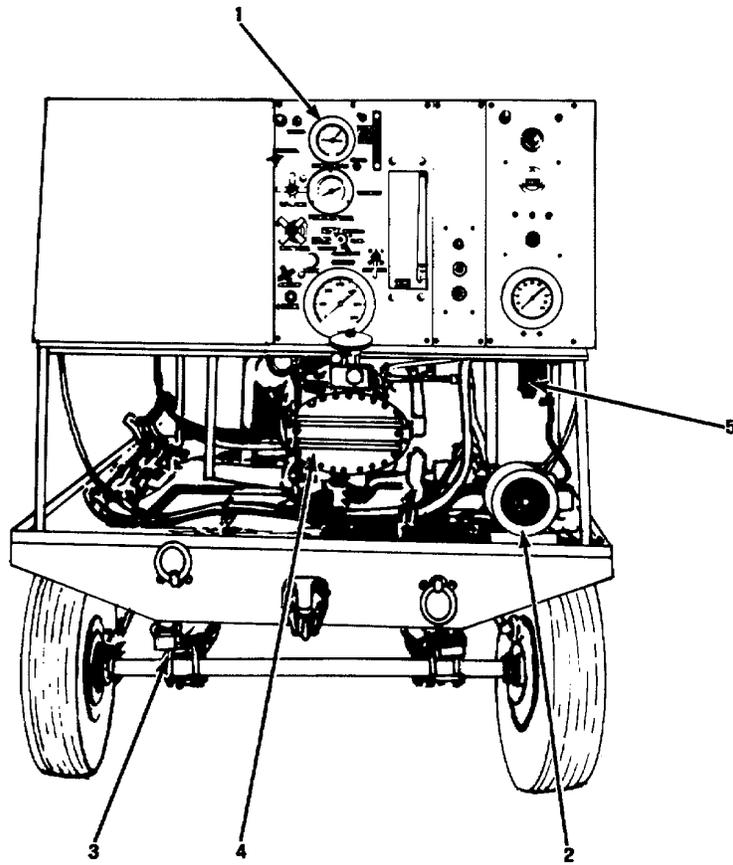

Figure 1-2. Major Components, Rear View.
**1-13. Trailer And Running Gear Assembly (3, Fig. 1-2).** The trailer frame is of welded steel construction. The trailer rolls easily on four steel wheels equipped with 6.00 x 9.00 inch, 6 ply tires. Individual leaf springs for each wheel give the stand good cushioning against road shocks and rough terrain, protecting the components of the test stand. A hinged towbar (7, fig. 1-3) permits ease of positioning of the test stand and towing. The front wheel steering is the conventional type with steering knuckles, tie rods, and king pins. A hand lever (6, fig. 1-3) sets the rear wheel brakes, holding the test stand in a fixed position during test operation or in parking on a grade. Two tie-down rings are provided on both the front and rear of the trailer frame to permit tie-down of the test stand for storage or shipment.
**1-15. Electric Motor.** Power for each test stand system is supplied by a 60 HP, 440 Volt, 3 Phase, 60 Cycle, 3550 RPM electric motor (1, fig. 1-3) directly coupled to the main pump (4, fig. 1-2).
**1-16. Main Hydraulic Pump (4, Fig. 1-2).** The main hydraulic pump supplies fluid at high pressure for testing of aircraft hydraulic circuits. The pump consists of a high pressure pump section and integral boost pump section. The pump contains a manual volume control for varying the output volume and a compensator control to regulate the output volume by changing the stroke length of the pumping pistons. Change in piston stroke length is controlled by system pressure so that when the pump is operating at a pressure less than the maximum setting of the compensator control, the pump delivers full volume. When the system pressure reaches the compensator control setting, the pump output is automatically reduced to the amount of flow required to maintain this pressure throughout the system. The compensator control provides an adjustable range of 500 to 5000 psig with flow varying to 27 gpm maximum. The volume control permits regulation of maximum volume output by limiting the angle of a cam plate through a threaded mechanism within the pump. The return line for the test system also includes a flowmeter to monitor fluid flow.
**1-21. Fill Pump System.** This system is used to fill the test stand hydraulic system with fluid in the preparatory operation of readying the test stand for scheduled operations. It also functions to fill the aircraft reservoir with pressurized fluid from the stand reservoir. The system includes an electric motor driven fill pump (2, fig. 1-2) with filter (5), system actuating valves (30, fig. 1-5), relief valve (33) and check valve (14).